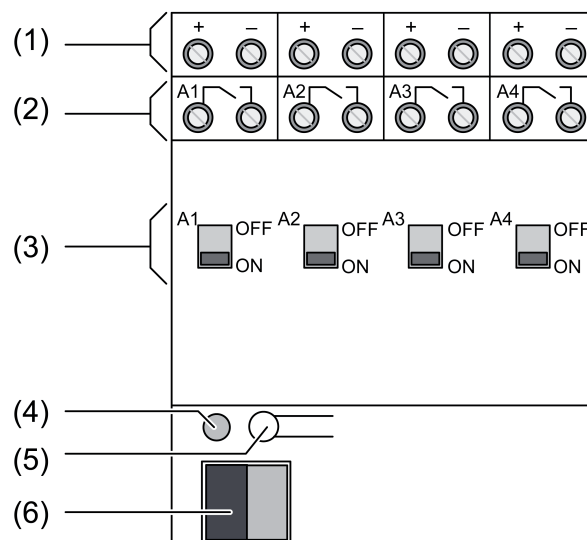

Figure 1
The status of the relay is reflected by the slide switches (3) on the front of the device.(Figure 1). At the same time they can be used for manual operation of the relay outputs using a suitable tool.